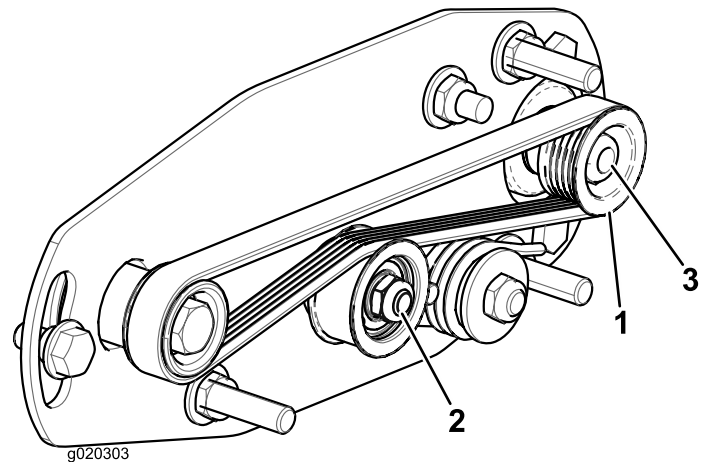

Figure 24
1. The driven pulley (at the roller-brush shaft) can move in or out (Figure 24).
2. While rotating the reel, which rotates the drive pulley, pry the belt off the drive pulley (Figure 24).
3. Remove the locknut securing the driven pulley to the brush shaft (Figure 24 or Figure 25).